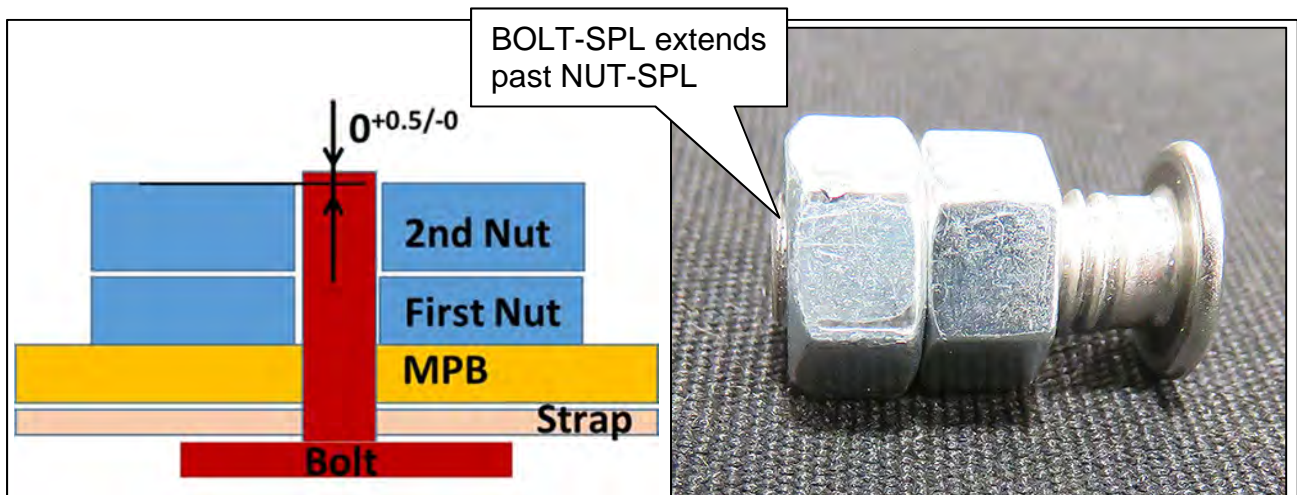

Figure 57
64. Tighten the first nut and the second nut until the bolt end extends past the second nut approximately 0.5 mm, as shown in Figure 57.